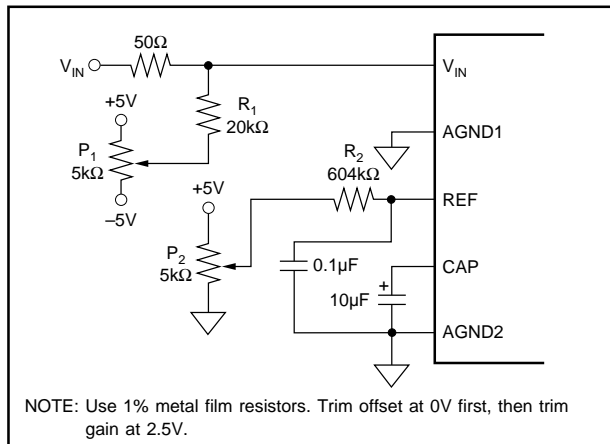
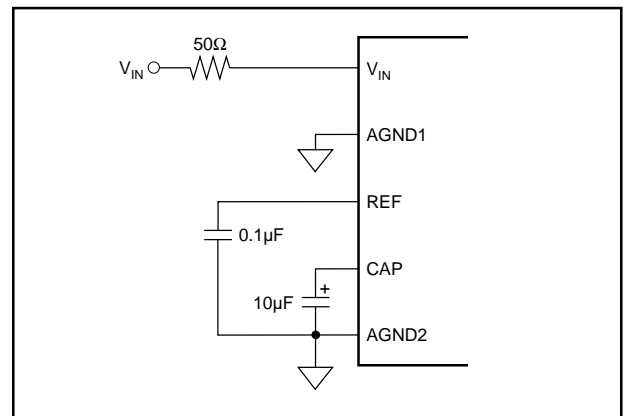
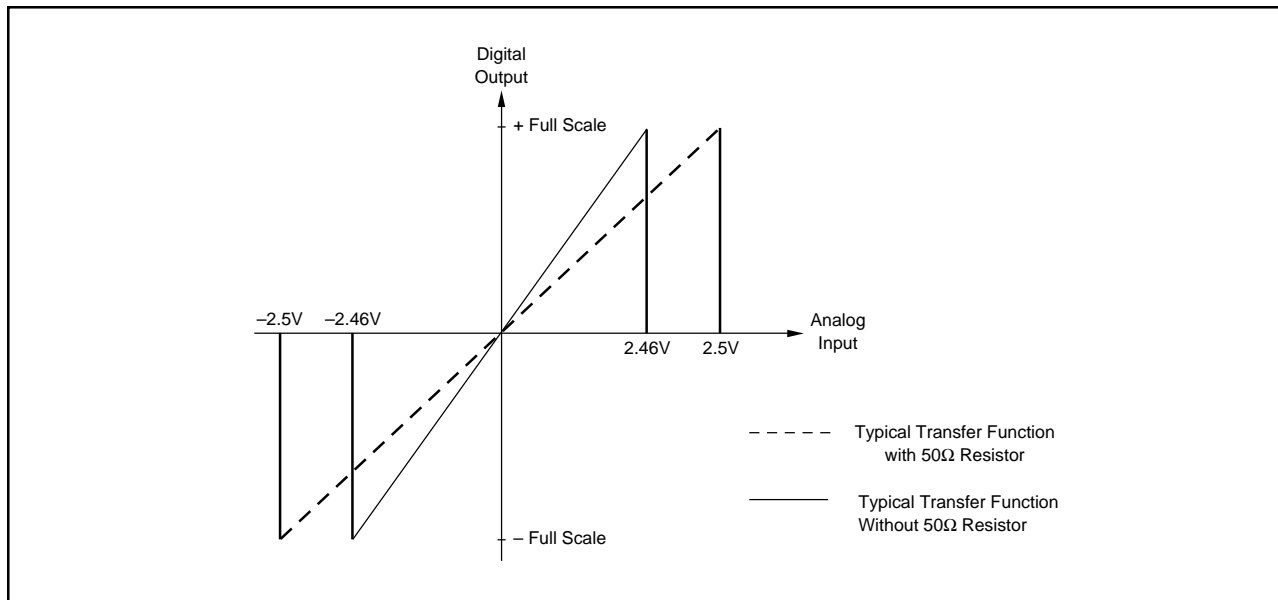

FIGURE 4a. Circuit Diagram With External Hardware Trim.
FIGURE 4b. Circuit Diagram Without External Hardware Trim.
FIGURE 5. Circuit Diagram With and Without External Resistors.
T = +25°C,  $f_s = 800\text{kHz}$ ,  $+V_{\text{DIG}} = +V_{\text{ANA}} = +5\text{V}$ ,  $-V_{\text{ANA}} = -5\text{V}$ , using internal reference and the input  $50\Omega$  resistors as shown in Figure 4b, unless otherwise specified.
T = +25°C,  $f_s = 800\text{kHz}$ ,  $+V_{DIG} = +V_{ANA} = +5\text{V}$ ,  $-V_{ANA} = -5\text{V}$ , using internal reference and the 50Ω input resistors as shown in Figure 4b, unless otherwise specified.
The ADS7819 has a  $\pm 2.5V$  input range. Figures 4a and 4b show the necessary circuit connections for the ADS7819 with and without external hardware trim. Offset and full scale error(1) specifications are tested and guaranteed with the 50 $\Omega$  resistor shown in Figure 4b. This external resistor makes it possible to trim the offset  $\pm 12mV$  using a trim pot or trim DAC. This resistor may be left out if the offset and gain errors will be corrected in software or if they are negligible in regards to the particular application. See the **Calibration** section of the data sheet for details.
To calibrate the offset and gain of the ADS7819, install the proper resistors and potentiometers as shown in Figure 4a. The calibration range is  $\pm 12\text{mV}$  for bipolar zero and  $\pm 30\text{mV}$  for full scale.
See Figure 4b for circuit connections. Note that the actual voltage dropped across the  $50\Omega$  resistor is nearly two orders of magnitude lower than the voltage dropped across the internal resistor divider network. This should be taken into consideration when choosing the accuracy and drift specifications of the external resistors. In most applications, 1% metal-film resistors will be sufficient.
The external  $50\Omega$  resistor shown in Figure 4b may not be necessary in some applications. This resistor provides trim capability for the offset and compensates for a slight gain adjustment internal to the ADS7819. Not using the  $50\Omega$  resistor will cause a small gain error but will have no effect on the inherent offset error. Figure 5 shows typical transfer function characteristics with and without the  $50\Omega$  resistor in the circuit.